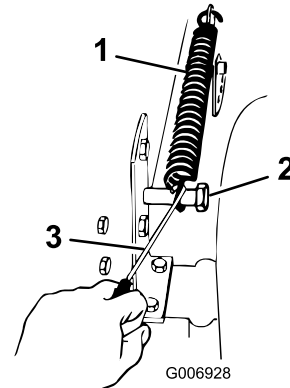

**Figure 54**
7. Install the cutter deck pivot mount brackets onto the front axle with the bolts and locknuts (Figure 54).